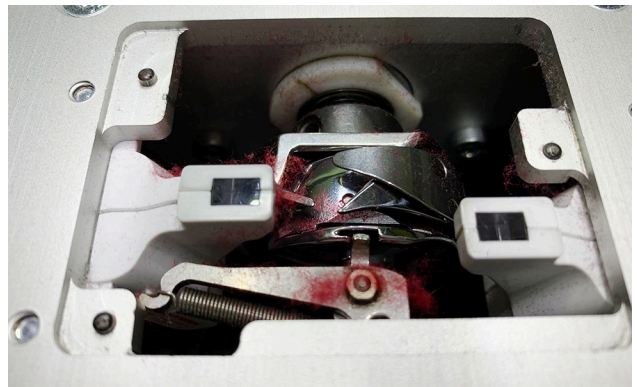

Fig. 4
7. Brush the lint from beneath the stitch plate (Fig. 4).